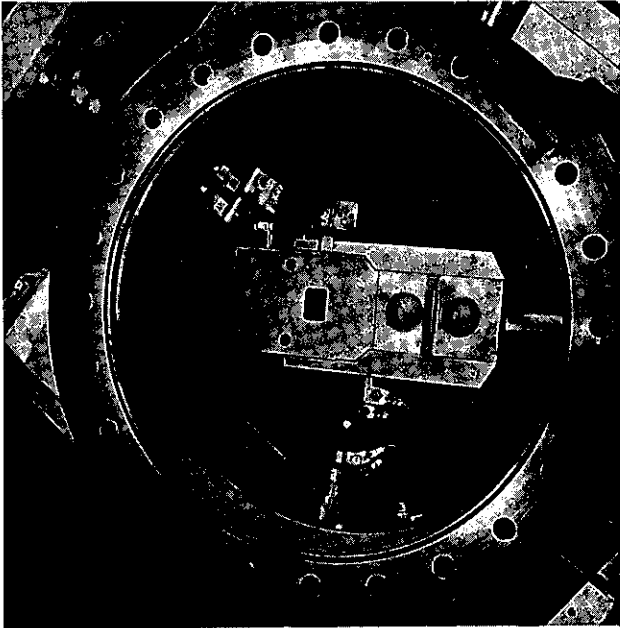

Fig. 11 ESQ 300 U, mounted in a UTS 350 UHV plant
- g. Make the electrical connection in the UHV-chamber from the cathode block to the high voltage lead-in according to a separate drawing in the annex (see also Fig. 11).